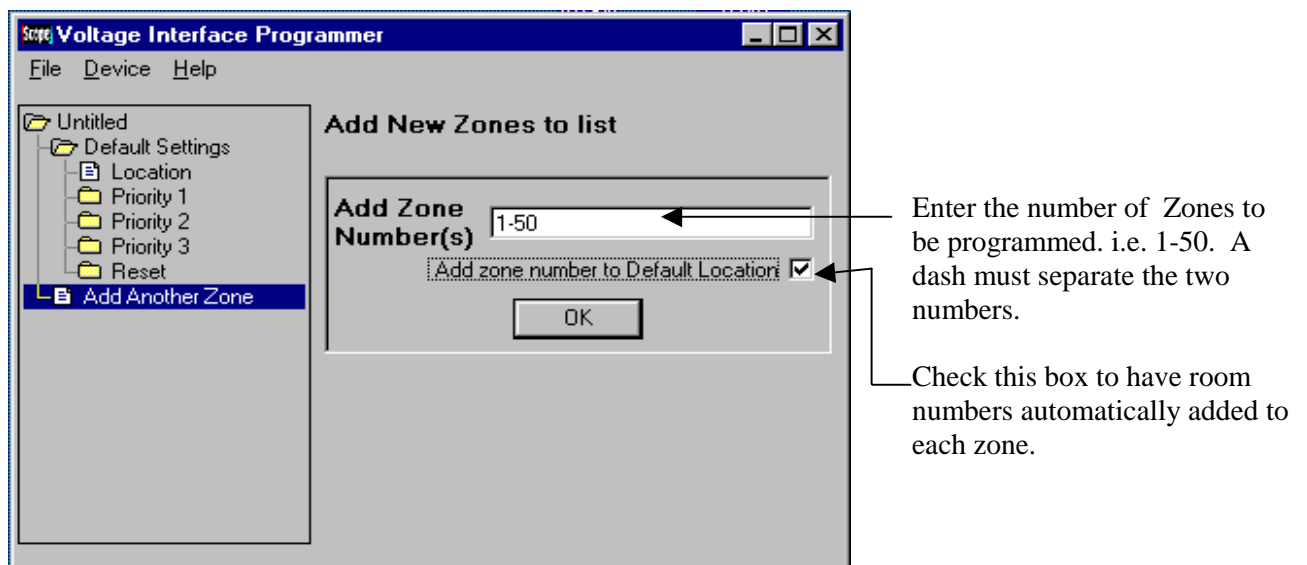

Figure 5
- d. Enter the number of Zone(s) { contacts } you will be activating. (see figure 5)